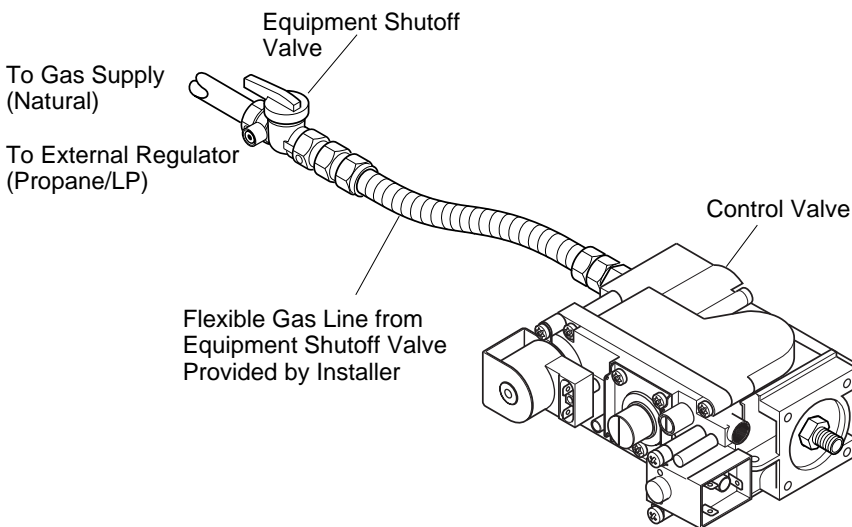

Figure 35 - Attaching Flexible Gas Line to Control Valve
3. Attach flexible gas line from gas supply (see Figure 35) to fireplace gas valve.